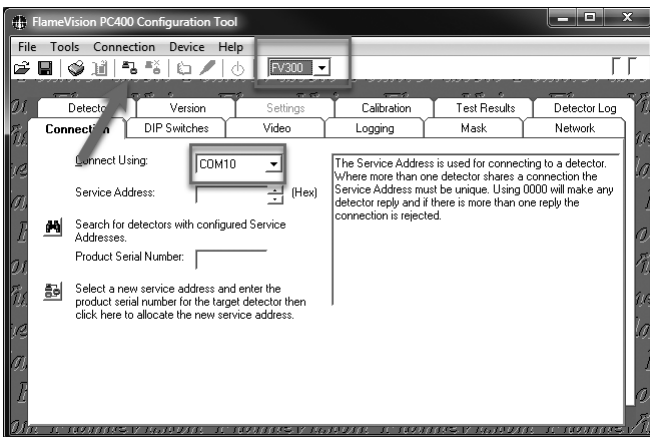

FIGURE 6-1
3. Select **FV300** from the drop-down menu (see Figure 6-1).